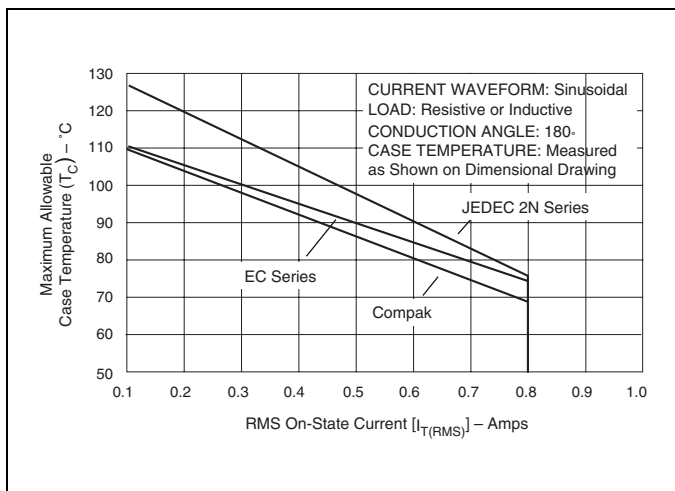
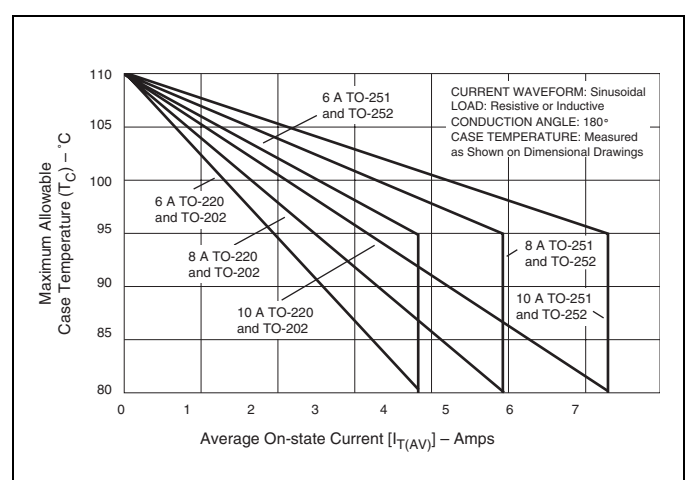
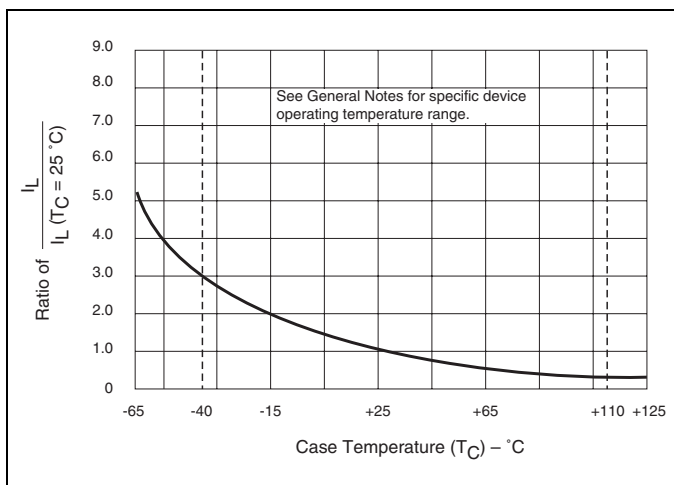

Figure E5.1 Maximum Allowable Case Temperature versus RMS On-state Current
Figure E5.9 Maximum Allowable Case Temperature versus Average On-state Current
Figure E5.18 Normalized DC Latching Current versus Case Temperature
- (1) See Figure E5.1 through Figure E5.9 for current ratings at specified operating temperatures.
- (13) See Figure E5.1 through Figure E5.9 for maximum allowable case temperature at maximum rated current.
- (14) I_{GT} = 500 μA maximum at T_C = -40 °C for T106 devices
- (15) I_H = 10 mA maximum at T_C = -65 °C for 2N5064 Series and 2N6565 Series devices
- (16) I_H = 6 mA maximum at T_C = -40 °C for T106 devices
- (17) Pulse Width ≤ 10 μs
- (18) I_{GT} = 350 μA maximum at T_C = -65 °C for 2N5064 Series and 2N6565 Series devices
- (19) Latching current can be higher than 20 mA for higher I_{GT} types. Also, latching current can be much higher at -40 °C. See Figure E5.18.
- (20) T_C or T_L = T_J for test conditions in off state
- (21) I_{DRM} and I_{RDM} = 50 μA for 2N5064 and 100 μA for 2N6565 at 125 °C
- (22) TO-92 devices specified at -65 °C instead of -40 °C
- (23) T_C = 110 °C